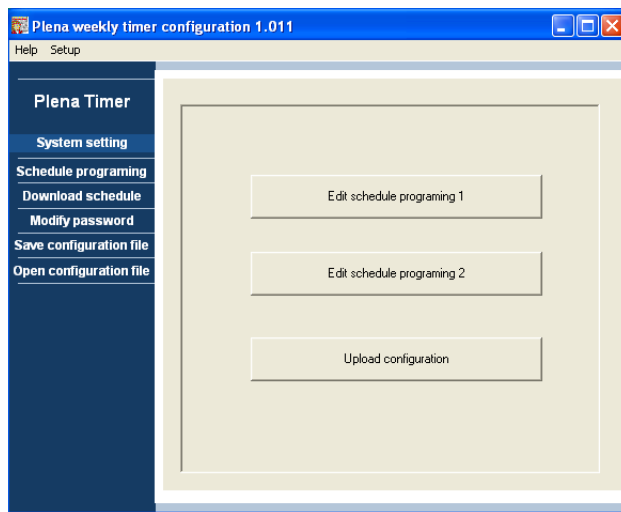

figure 8.15: Programming and upload buttons
- 1 From the main menu, click the Schedule programming button. The following window will appear (see figure 8.15).